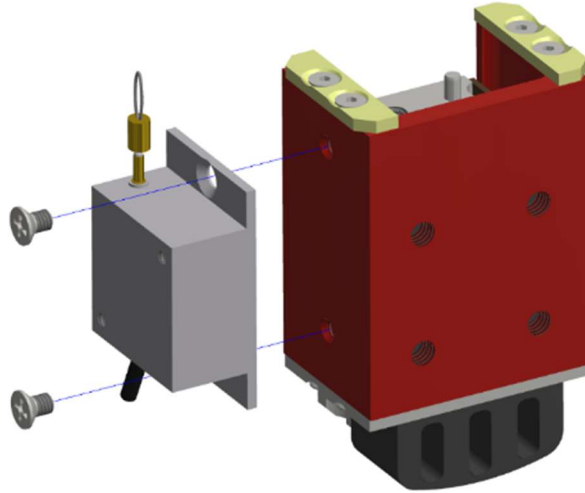

Figure 9-36. String Pot Assembly and Molded Left Knee Slider (484-5422)
- 9.3.6 Attach the String Pot and String Pot Mount Plate to the Left Knee Slider Assembly (474-5422) using two M2.5 X 0.45 X 4 LG. FHMSF as shown in Figure 9-36.